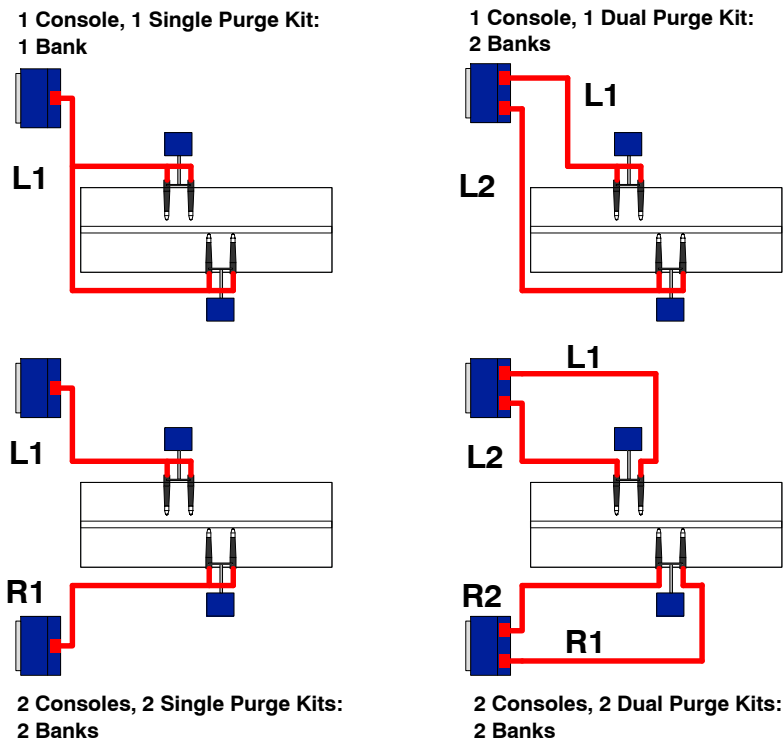

Figure 3-24 Bank Configuration Possibilities
5. See Figure 3-24. Set the **number of banks** desired: 1, 2, or 4. This is dependent on the number and type of purge kits you have installed in your iControl consoles.
Bank assignments are dependent on the number of banks set in Step 5, and the physical location of the guns. Possibilities are shown in the following table and Figure 3-24.